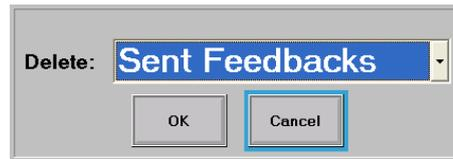

Figure G.18: DPSH shell. Choice feedbacks to delete
- 2.3.3 New dialog will suggest you to make choice what do you want to delete (see Figure G.18):